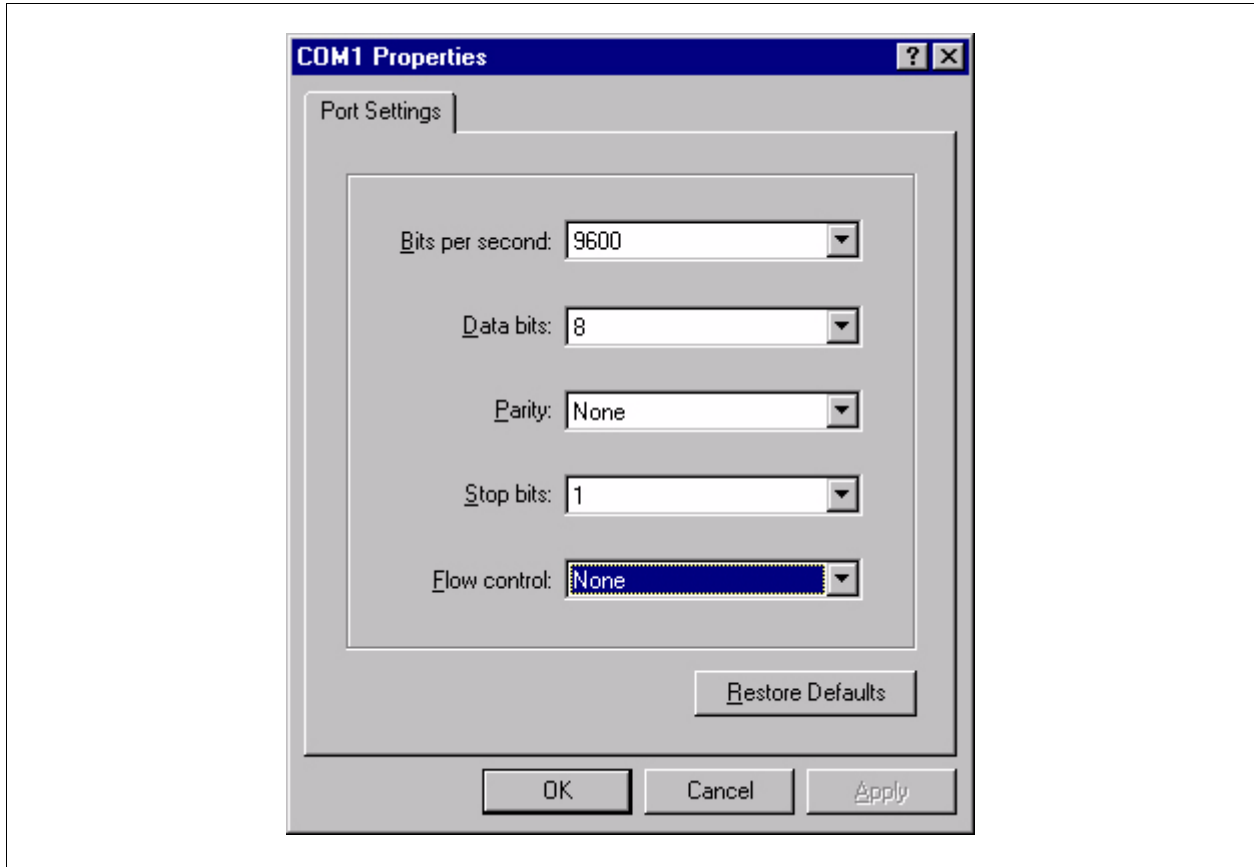

Figure 3-3: Serial Session Properties
- D The COM1 Properties dialog box displays. Set the following properties and then click the **OK** button. See Figure 3-3.